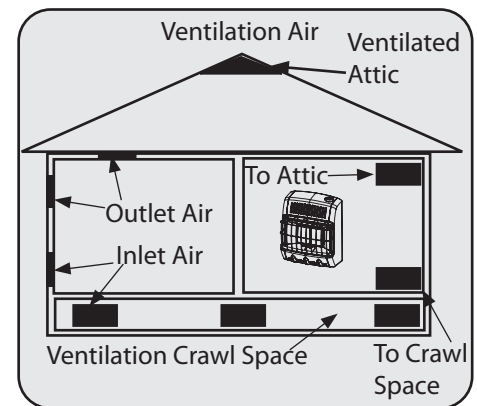

Figure 3
- Vent room directly to the outdoors. See Ventilation From Outdoors (Fig. 3).